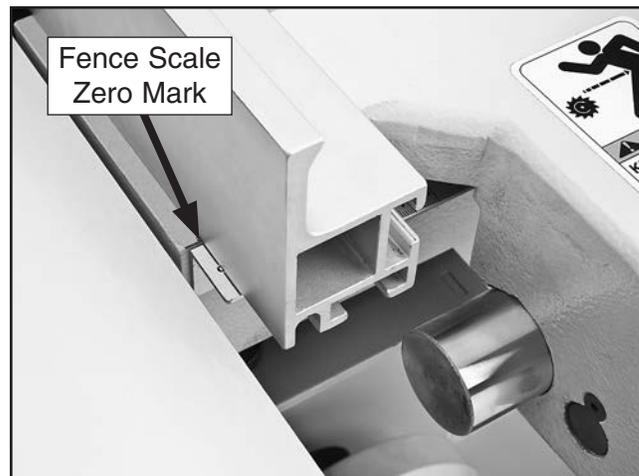

Figure 38. Rip fence scale zero mark even with the rip fence face.
44. Move the rip fence up against the saw blade, then position the rip fence scale so that the zero mark is even with face of the rip fence, as shown in **Figure 38**.